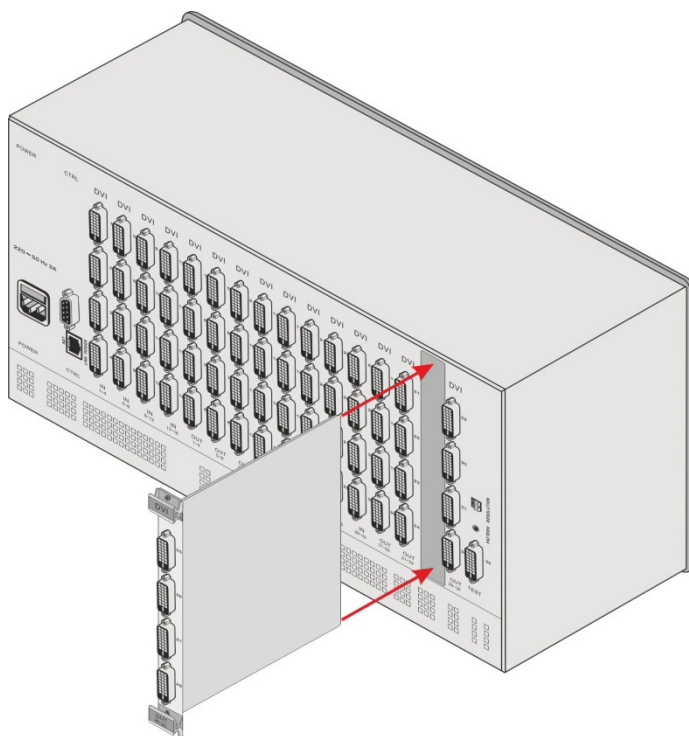

Figure 12: Inserting the Card into a Slot
To install an I/O card as shown in Figure 12:
**To install a second power supply as shown in Figure 12:**